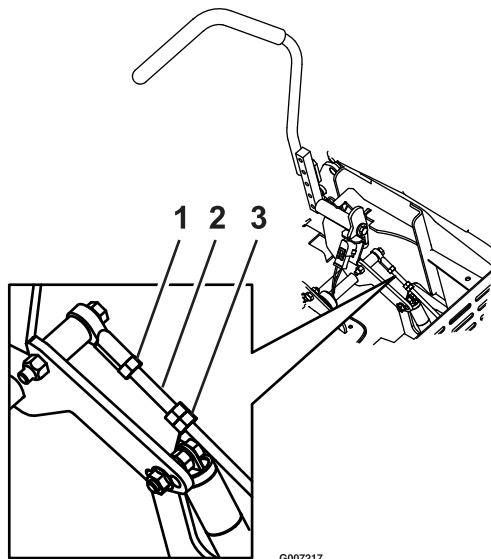

Figure 17
7. To adjust each linkage, loosen the jam nut next the ball joint at the upper end of the linkage rod assembly. Then rotate the assembly using a wrench to turn the double nuts on the assembly (see Figure 17).